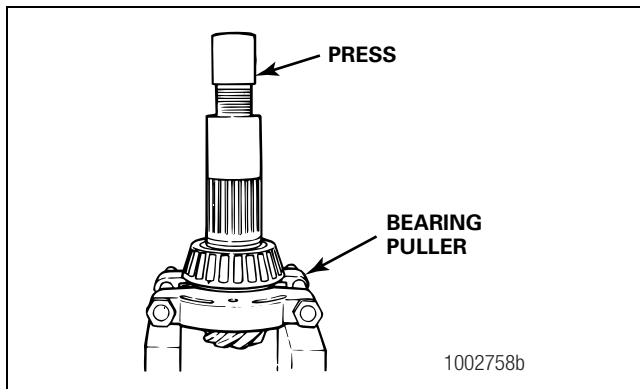

Figure 3.54
4. If necessary, remove the inner bearing cone from the drive pinion. Place a bearing puller under the inner race to support the bearing. Place a protector on top of the pinion shaft and press the drive pinion out of the bearing cone. Figure 3.54.